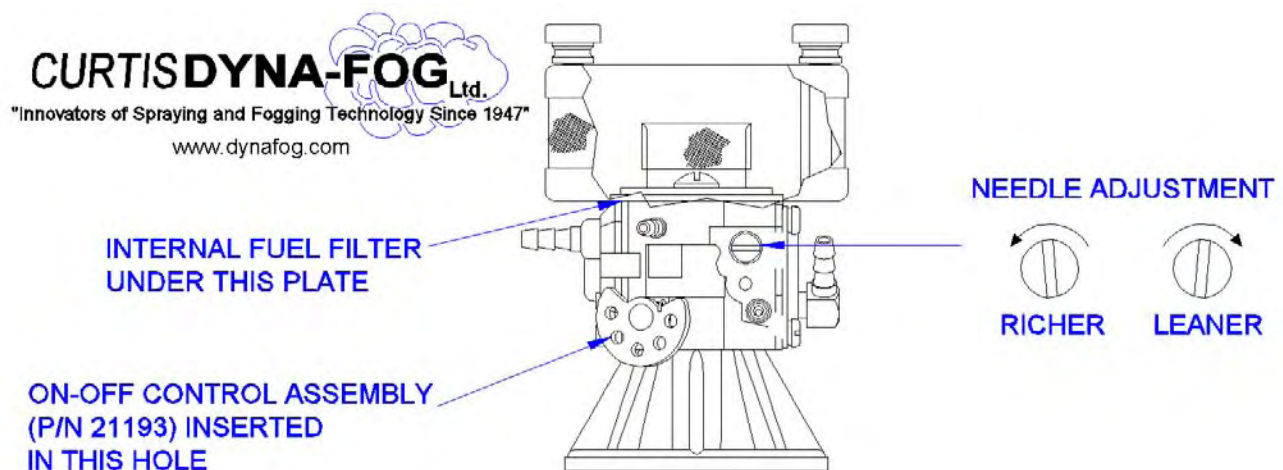

FIGURE 7
1. If the On-Off Control linkage does not rotate the linkage stop from full open to full closed, (see figure 7), then the linkage should be adjusted.